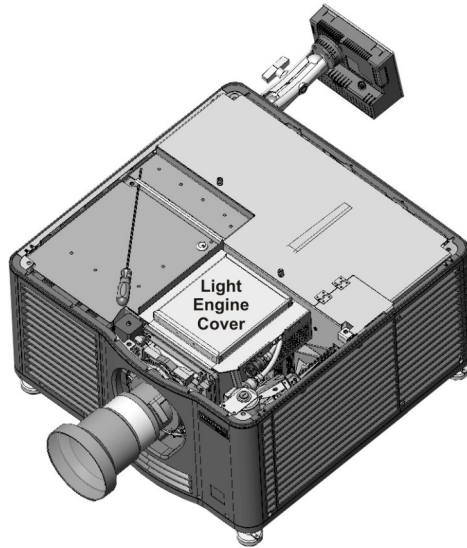

Figure 5-42 Remove Light Engine Cover
3. Remove the two screws securing the light engine cover (**Figure 5-42**).
3. Remove the two screws securing the light engine cover. See **Figure 5-42 Remove Light Engine Cover, on page 5-30**.
3. Remove the two screws securing the light engine cover. Refer to **Figure 5-42 Remove Light Engine Cover**, on page 5-30.
3. Remove the light engine cover. Refer to **Figure 5-42 Remove Light Engine Cover, on page 5-30**.